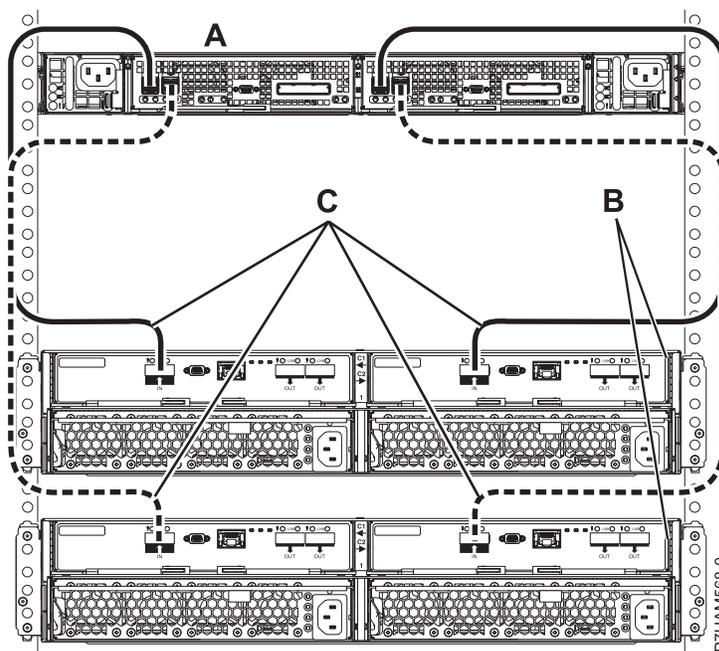

Figure 34. Mode 1 connection of two 58/87 disk drive enclosures by using EX cables to a PCIe storage enclosure
- n. Perform the mode 1 connection of two 58/87 disk drive enclosures (B) by using EX cables (C) to a PCIe storage enclosure with support for SAS disk drawers (A) as shown in Figure 34.
- Each internal adapter in the PCIe storage enclosure (A) has access to the other adapter and to all disk drive bays.
- Both EX cables (C) from the same 58/87 disk drive enclosure must be attached to the same numbered SAS port on the PCIe storage enclosure as shown in Figure 34.